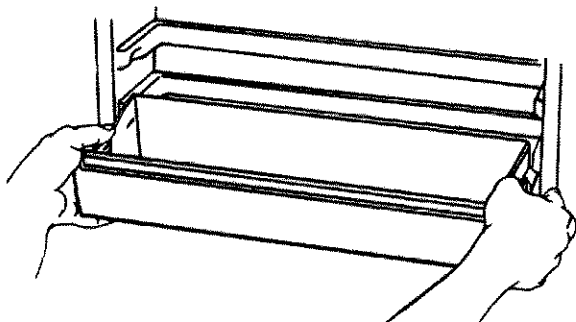

Figure 25
- Move bucket by holding lock tabs in and pulling bucket straight out. See Figure 25.